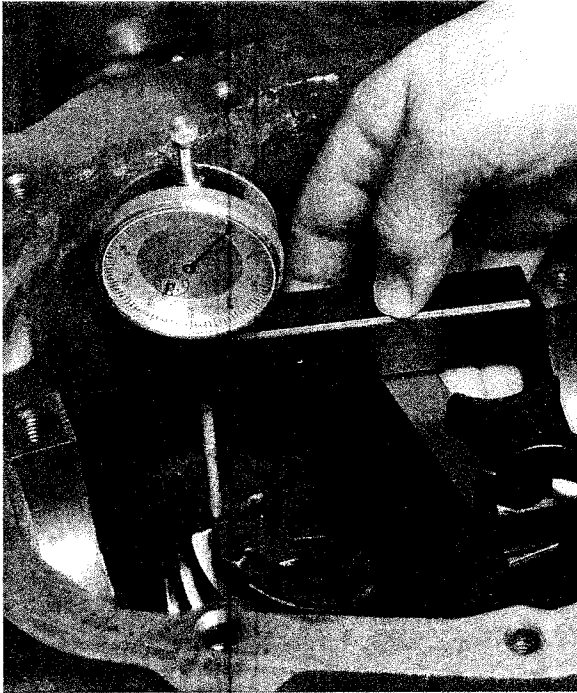

FIGURE 6
12. Place the Indicator Holder firmly and squarely on the Swing Bar, and move the Indicator tip into position on the end of the pinion, as shown in Figure 6. Note: on a removable-carrier type such as 9" Ford, measure to the top of the pinion stub protruding through the pilot bearing. Record the Indicator reading. Read tenths of an inch with the small pointer, hundredths and thousandths with the large pointer.